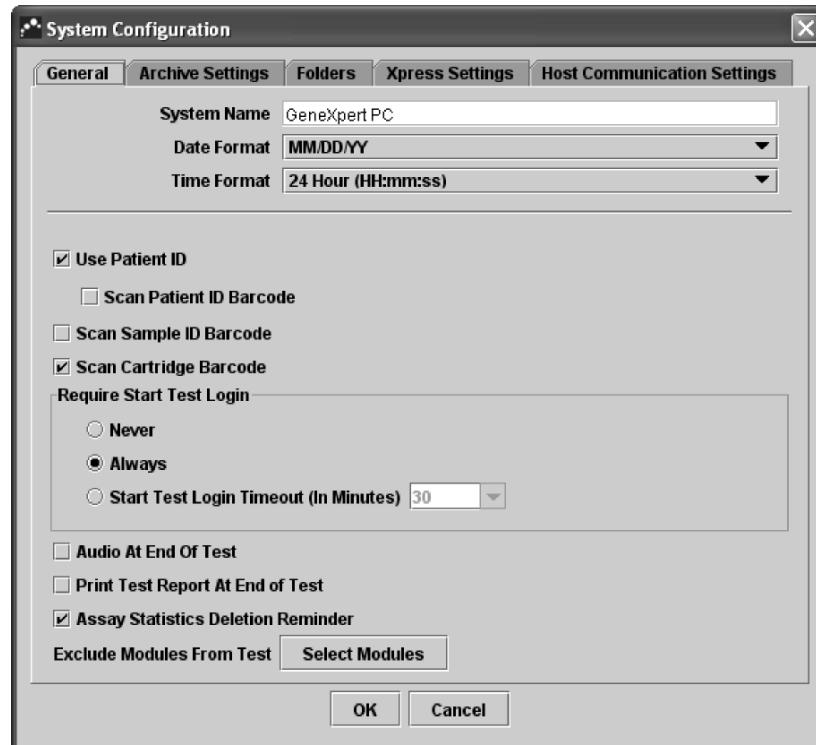

Figure 6-1. System Configuration dialog box (General window)
1. In the GeneXpert Dx System window, click **Setup** on the menu bar, then click **System Configuration**. The System Configuration dialog box and the **General** window appears (Figure 6-1).